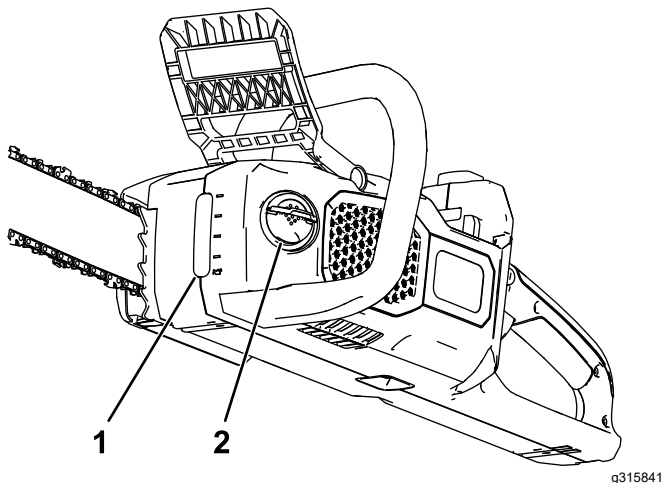

Figure 27
2. Check the oil level in the window. If the oil does not fill the window, add bar and chain oil as needed (Figure 27).
4. Clean the area around the oil cap (Figure 27).
5. Unfold the wing-nut tab on the oil cap tab, remove the cap, and pour bar and chain oil into the chain saw until the oil fills the tank (Figure 27).